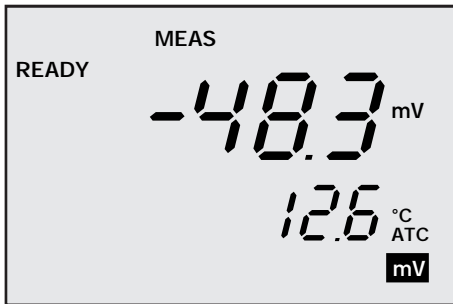

Figure 8
7. Take readings. When reading stabilizes, a "Ready" indicator displays. See figure 8. The READY mode shows the readings are stable within  $\pm 0.1$  mV until the measured value exceeds the  $\pm 0.2$  mV range.